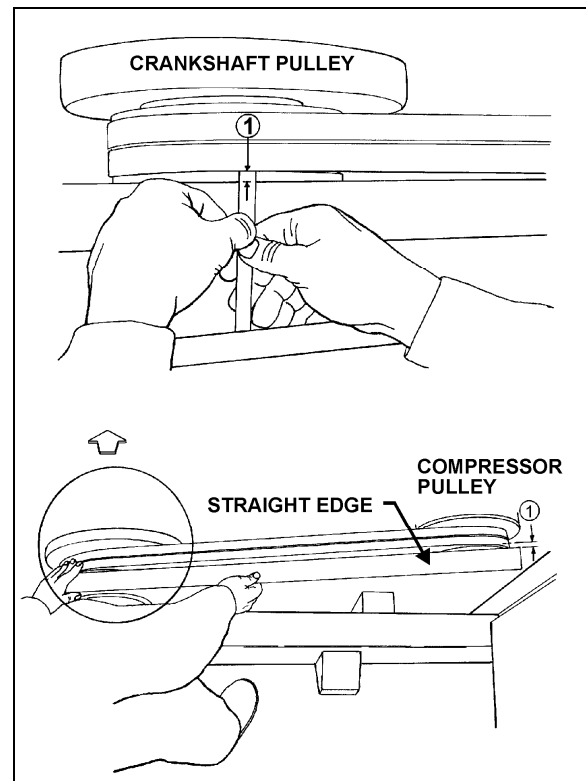
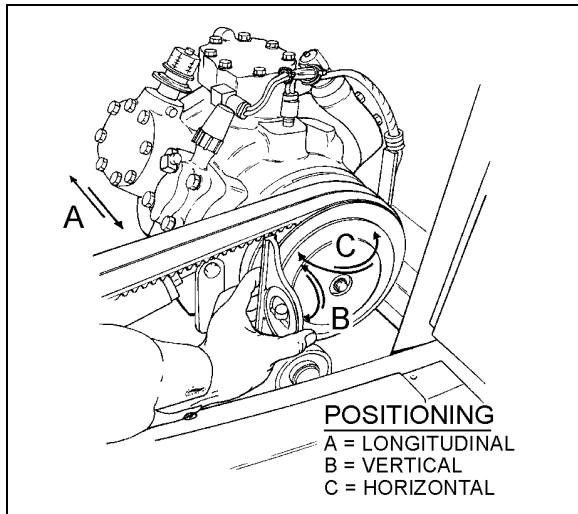

FIGURE 25: COMPRESSOR ALIGNMENT
FIGURE 26: COMPRESSOR ALIGNMENT 22072
1. Rest an extremity of a straight edge of approximately 46 inches (117 cm) against the upper part of the outer face of crankshaft pulley, positioning the other end close to the compressor clutch pulley (figure 25 & 26).
2. Check the distance between each extremity of straight edge (1, figure 25) and the first drive belt. If they are different, loosen the compressor support bolts and with a hammer, knock support to slide it in order to obtain the same distance; then tighten bolts.
2. Check the distance between each extremity of straight edge (1, figure 25) and drive belt. If they are different, loosen the pillow block compressor bolts and with a hammer, knock compressor pillow block to slide it, in order to obtain the same distance; then tighten bolts.
Rest a short "angle and level indicator" on the outer side face of the crankshaft pulley, adjust the level indicator inclination at 0° and check if the compressor pulley is at same angle (figure 25 & figure 26). If it is not the same, shim under the appropriate pillow block in order to obtain the correct angle.